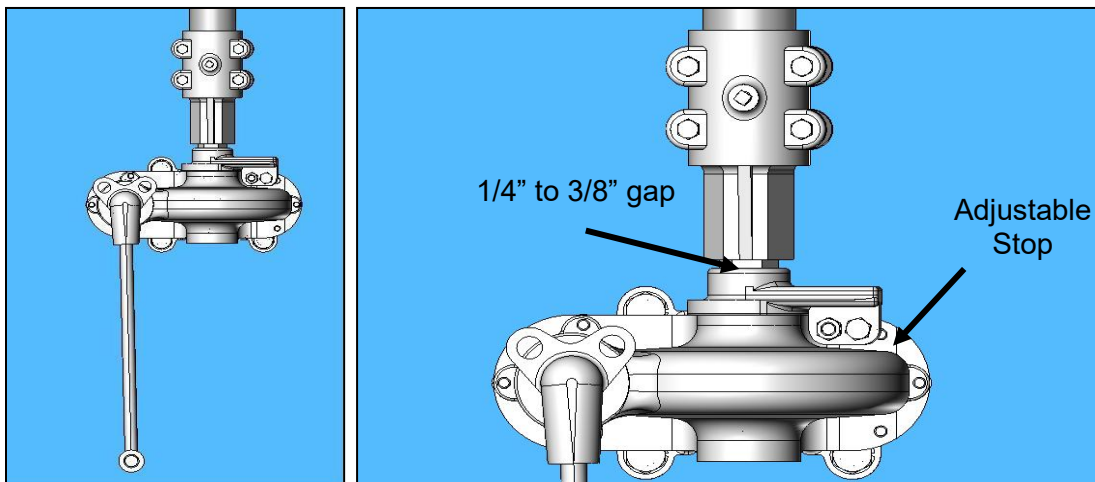

Figure 13: Type HOGO (High Output Geared Operator) Front View
2.1.1. The weight of the vertical operating pipe should be supported by pipe collar (Error! Reference source not found.) by maintaining the 1/4" - 3/8" gap (Figure 13).
2.1.2. When the switch is properly adjusted the operator handle should hang freely in both the open and closed positions to permit the use of a customer supplied padlock. Refer to Figure 13.